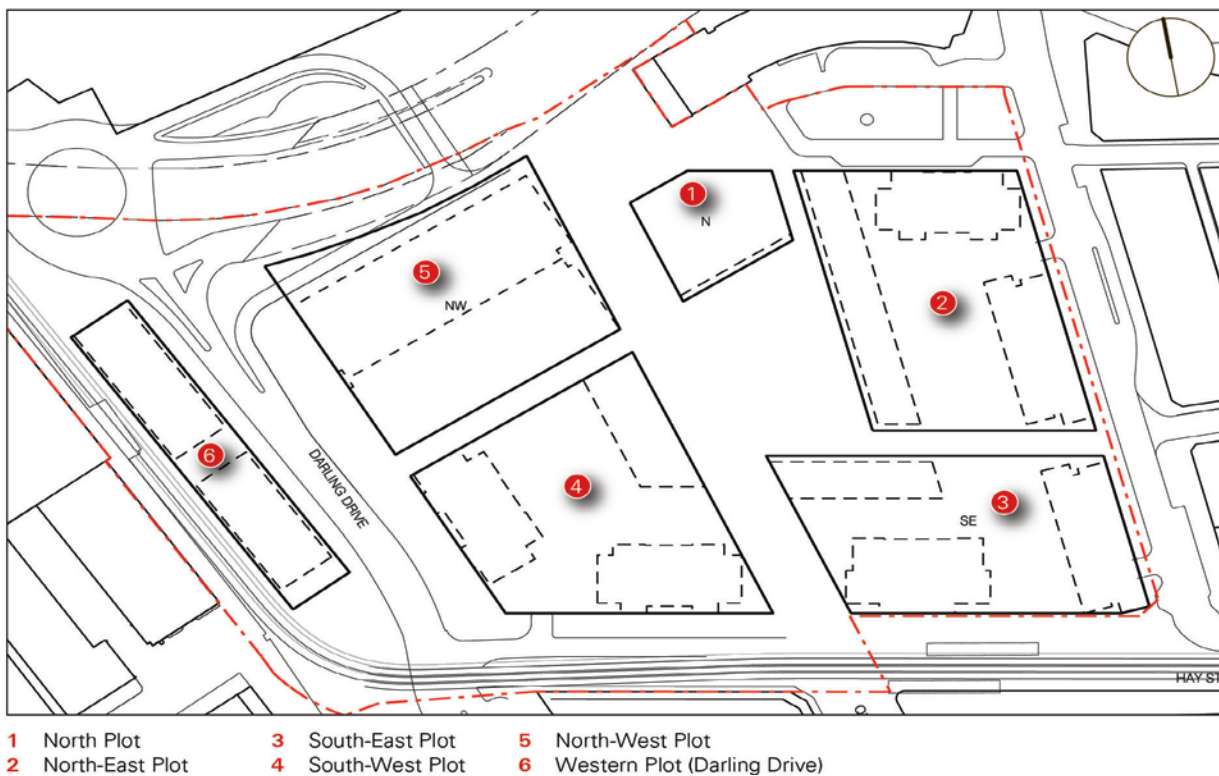

Figure 2 – Concept Proposal Development Plots
The Concept Proposal DA provides for six (6) separate development plots across Darling Square Site (refer to **Figure 2**):